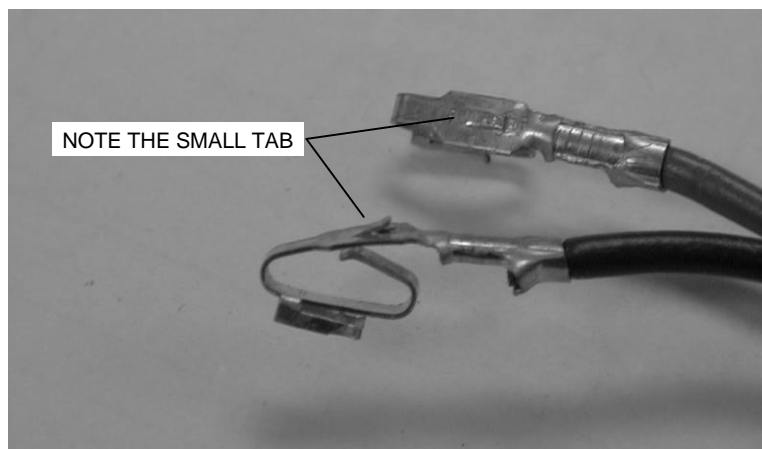
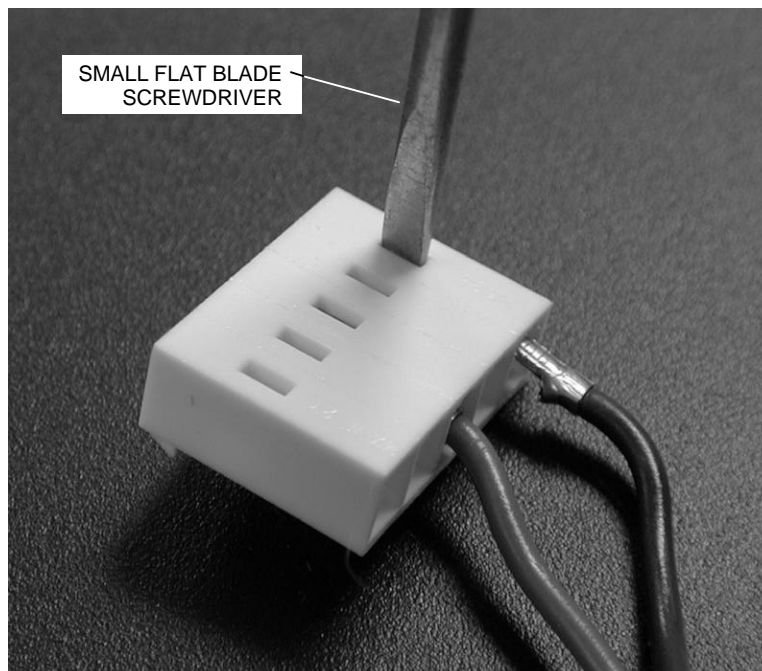

Figure 1 Detail of the Connector Pins
Figure 2 Small Screwdriver used to depress the Tabs
2. Pin Extraction: While gently pulling on the wire, insert the blade of a small flat blade screw driver into the slot in the connector housing and apply downward force sufficient to collapse the tab (see Figure 1). When the tab is sufficiently depressed, the connector pin will slide out of the housing (see Figure 2). The tab should spring back when pressure is removed.